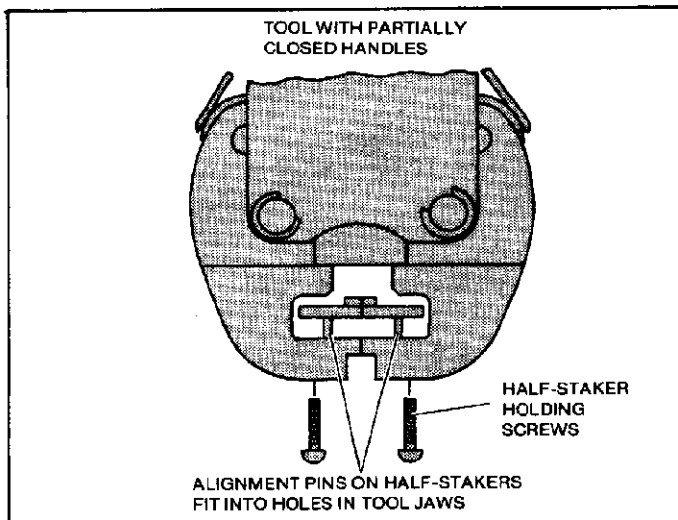

Figure 6
- Position half-stakers on jaws so that alignment pins in half-stakers fit into holes in tool jaws. See Figure 6.